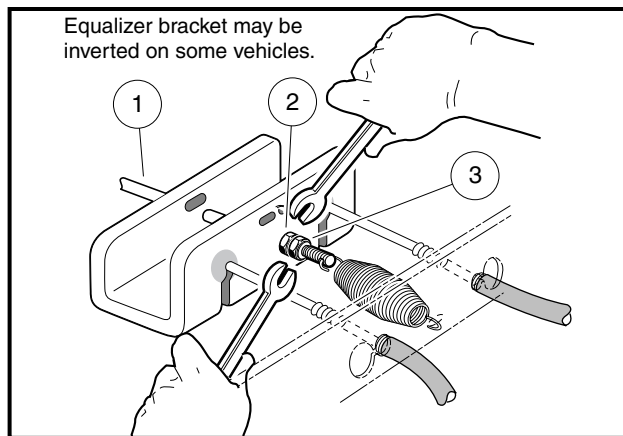

Figure 5-33 Loosen Rear Brake Equalizer Rod Nuts
- 2.2. To provide slack in the brake cables, loosen the equalizer retaining nuts (2 and 3) on the equalizer rods (1) (**Figure 5-33, Page 5-21**).